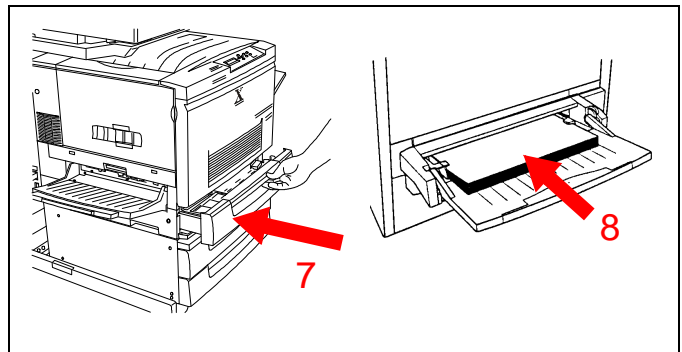

Figure 14
7. See Figure 14. Push the lower right unit back into the copier/printer.